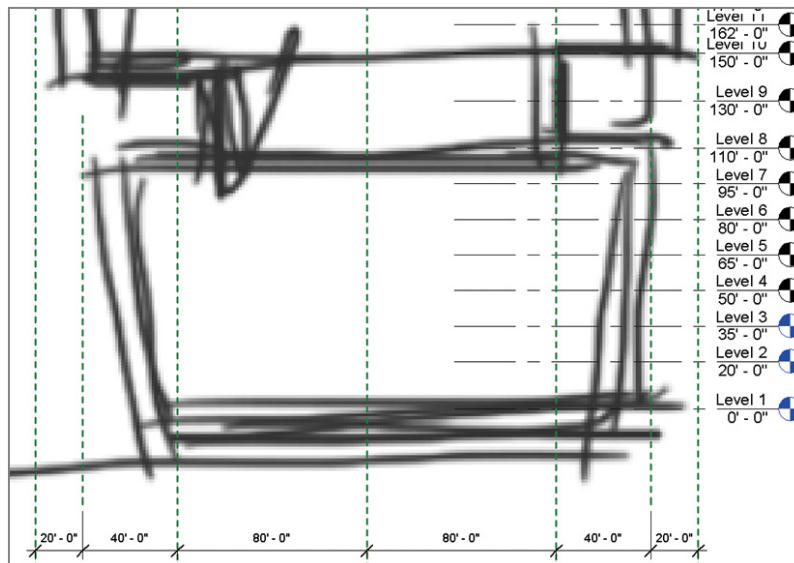

FIGURE 7.13 Creating reference planes in the East elevation
4. Drag a copy of the detail group from the Project Browser into the view. Change the view scale to 1"=40'. Then create some more reference planes on the other elevation sketch, as shown in Figure 7.13.